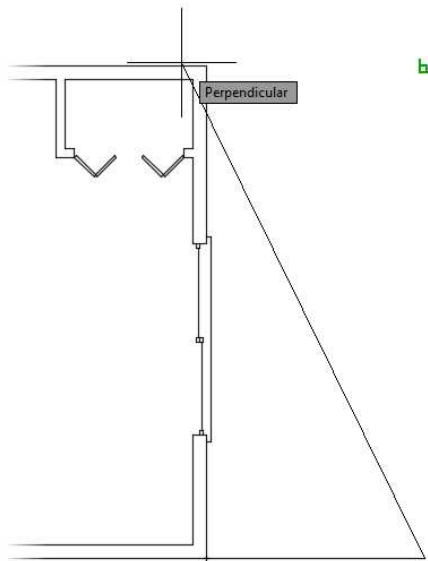

FIGURE 5.13: Drawing the vertical line perpendicular to the upper cabin wall
6. Use the Perpendicular Object Snap by entering **PER** at the command line, or by pressing the Ctrl key and the right mouse button simultaneously. Place the cursor over the top-outside horizontal line of the cabin and, when the Snap marker appears (see Figure 5.13), click to draw the vertical line of the deck's perimeter.